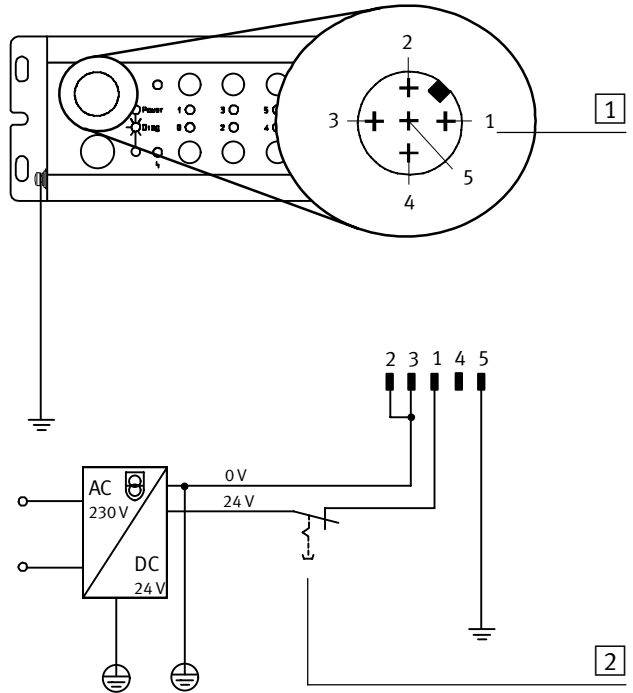

Fig. 1/7: Pin assignment and connection example of the sensor supply (PNP operation)
- on the housing (earthing connection see Fig. 1/7).